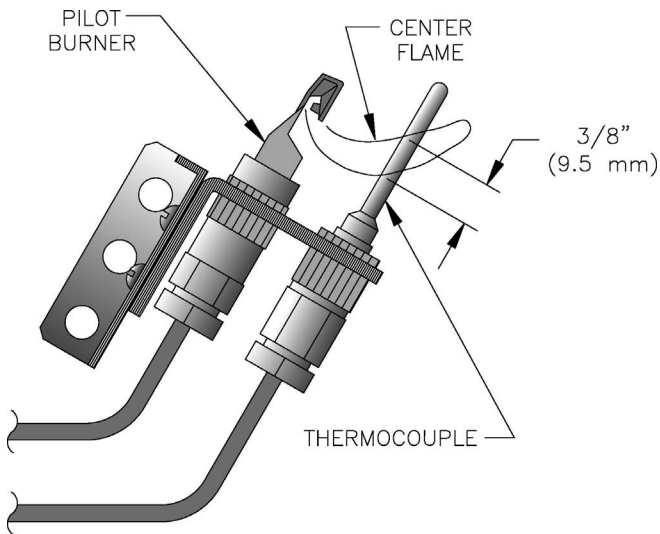

Figure 42: Pilot Burner Flame, Honeywell Q327
- a. Continuous Ignition (Standing Pilot), Models IN10 through IN12. See Figure 42. Pilot burner produces three (3) flames. Center flame should be steady, medium hard blue enveloping $3/8$ to $1/2$ inch of thermocouple.